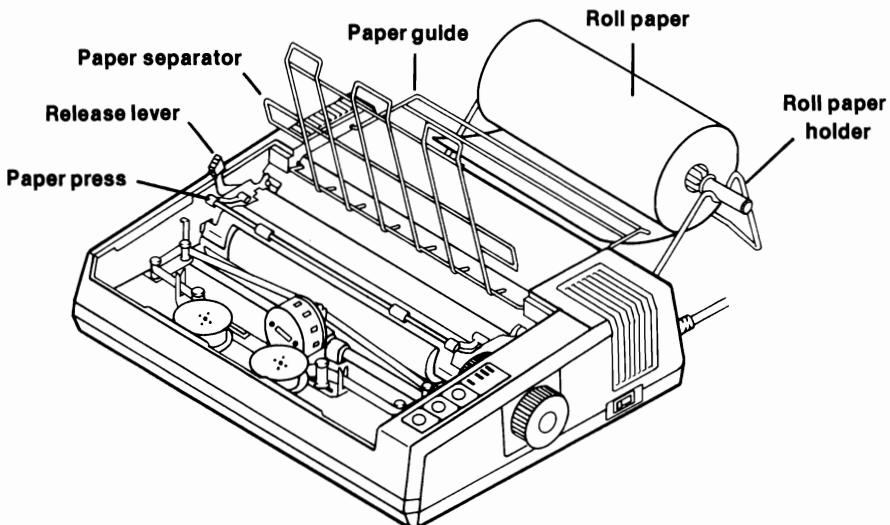

Figure 2-4. Both Gemini printers use similar paper guides and separators and identical roll-paper assemblies.
Roll paper utilizes the metal racks, which come as accessories with every Gemini printer. As shown in Figure 2-4, these accessories include the paper guide, paper separator, roll-paper holder, and holder shaft. For information on how to attach these accessories, please refer to Appendix G.
6. Pull the paper separator upright, as depicted in Figure 2-4 (for the Gemini-10X). The paper guide should remain horizontal.
7. Load the paper roll, as shown in Figure 2-4, so that when viewed from the printer's right side, the paper will unroll in a clockwise direction.